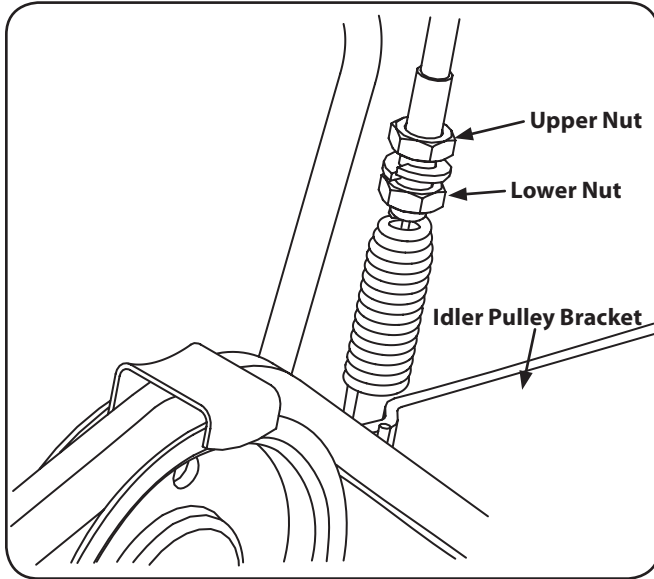

Figure 1-3
2. Locate the spring at the end of the cable. See Figure 1-3.